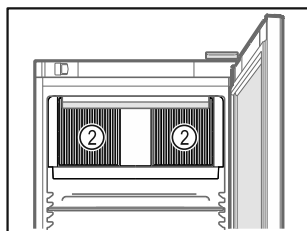

Fig. 31
- Ventilation slots Fig. 31 (2) for recirculation fan in the interior must be kept clear.